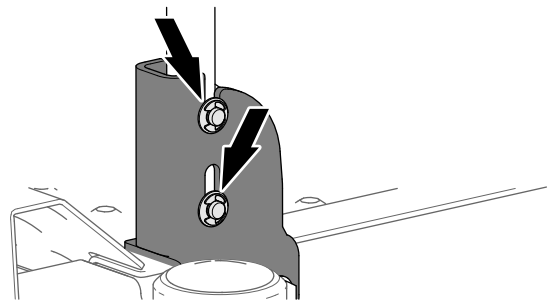

Figure 10
3. Ensure that the assist handle is fully seated in the bracket slots as shown in Figure 10.